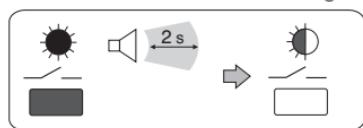

Fig. 8
- Hold the “—” key pressed until you hear a single beep; then release it: the LED is flashing (fig. 8).